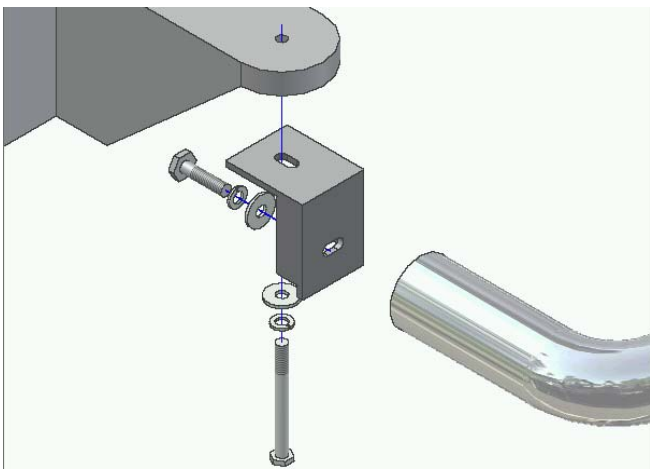

Figure 1.2 – Front Bracket
2. From underneath truck, loosen and remove body mount bolts that run upward through mounts into floorboard. Attach and secure Front Mount Bracket to underside of vehicles front body mount (see Figure 1.2) with (1) M12 – 1.75 x 120mm bolt, (1) 12mm split lock washer, and (1) 12mm flat washer. Hand Tighten.